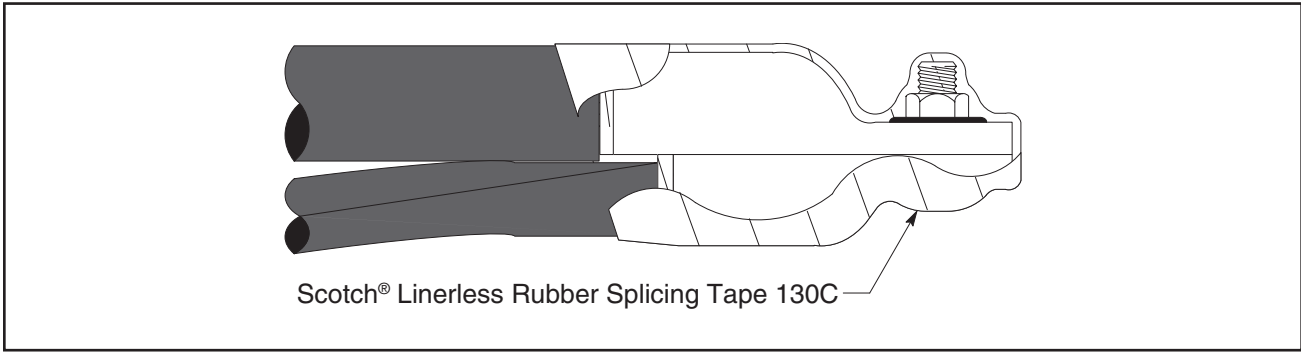

Figure 3
2.5 FOR 8 kV ONLY. Cover the lugs and bolt with four half-lapped layers of Scotch® Linerless Rubber Splicing Tape 130C (Figure 3).
**NOTE: FOR 8 kV ONLY: Lug cover will be printed with 5 kV rating, but mastic layer in Step B-5 (Figure 3) qualifies the part as 8 kV.**